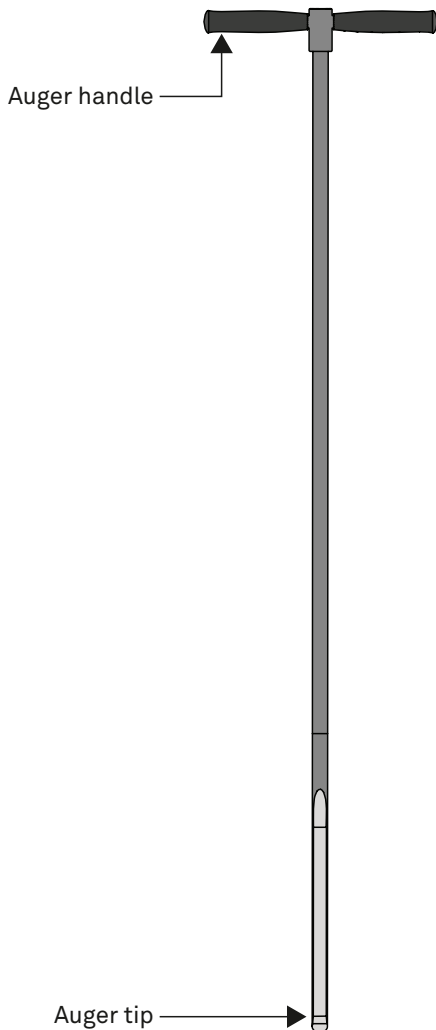

Figure 2 TEROS 54 auger
To install the TEROS 54 into the soil, use the TEROS 54 auger available from METER (Figure 2) to drill a vertical hole in the soil. Use a level on the auger to make sure the hole is drilled vertically to prevent damage to the probe.
When the ground is rocky, the TEROS 54 auger (Figure 2) provided in the installation kit must be used to pre-drill a hole. A brief installation how-to video is also available on the TEROS 54 Support Page (meter.ly/teros54) in addition to detailed directions in this section (beginning on page 9).
- The TEROS 54 auger is shaped to prevent soil compaction near the probe elements (Figure 2).
1. Assemble the auger using the handle and auger tip (Figure 2).